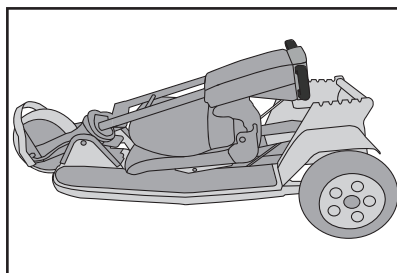

Figure 8
6. Push tiller down to rest on seat (Figure 8).